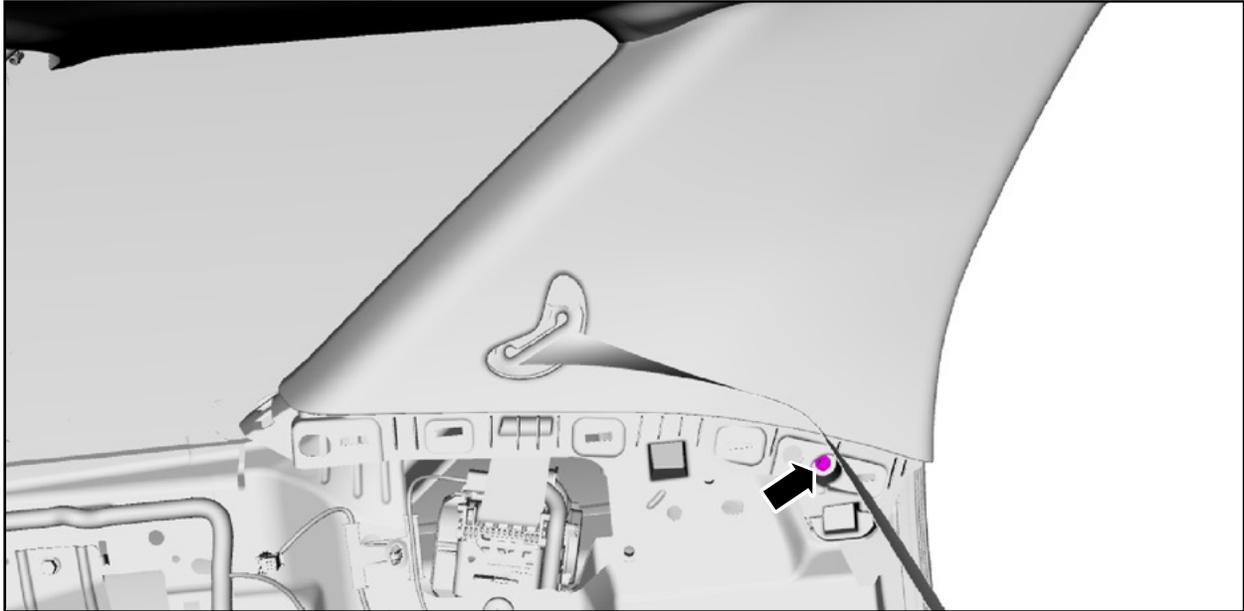

FIGURE 24
24. Remove the LH C-pillar trim panel bolt. See Figure 24.